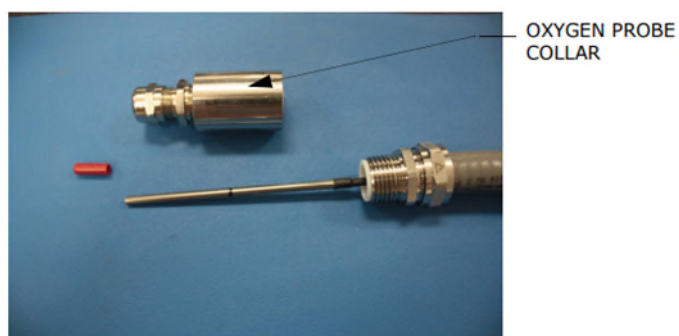

Figure 10. Remove oxygen probe collar
2. Unscrew the collar from the hex nut and remove the collar. Refer to Figure 10.